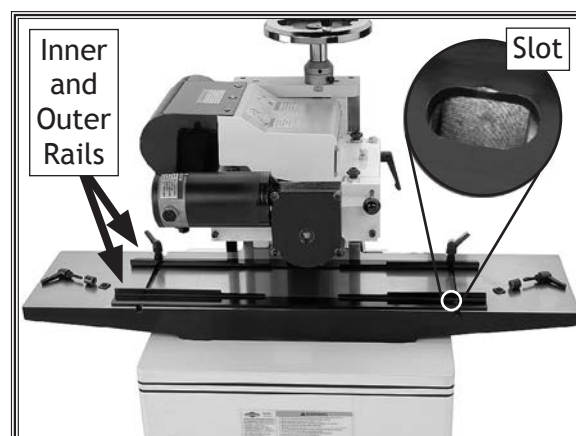

Figure 16. Rail installation.
15. Install two T-nuts in each table slot (see **Figure 16**).
16. Position the inner and outer guide rails so the elongated T-nut slots (see **Figure 16**) are positioned on the infeed table.